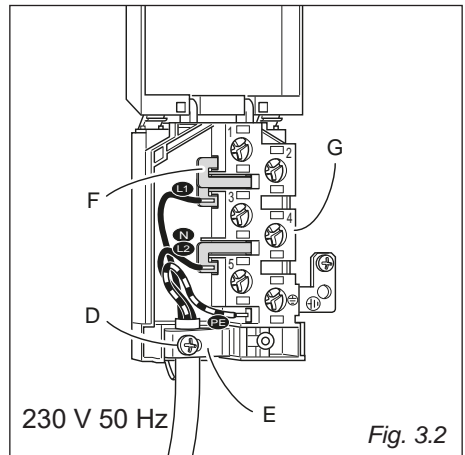

Fig. 3.2
- Unscrew the screw “D” and open completely the cable clamp “E” (fig. 3.2).
- Position the U bolts “F” onto terminal board “G” (fig. 3.2) according to the diagrams in fig. 3.3.
SETTING TIME OF DAY (fig. 3.2)